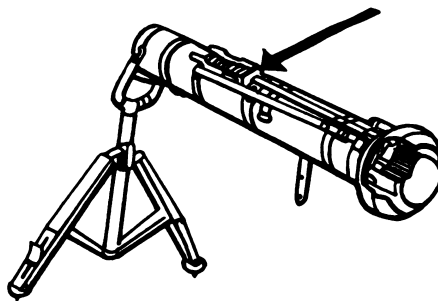

Figure 5
5. Remove the electrical connector cover from the round (fig. 5).